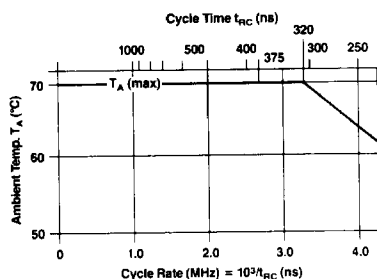
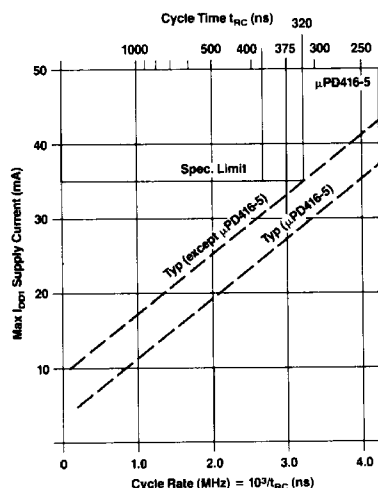

Figure 1. Maximum Ambient Temperature versus Cycle Rate for Extended Frequency Operation
Figure 2. Maximum I_{DD1} versus Cycle Rate for Device Operation at Extended Frequencies
- ① T_A is specified here for operation at frequencies to $t_{RC} \geq t_{RC}(\text{min})$. Operation at higher cycle rates with reduced ambient temperatures and high power dissipation is permissible, provided AC operating parameters are met. See Figure 1 for derating curve.
- ② All voltages referenced to GND.
- ③ Output voltage will swing from GND to V_{CC} when activated with no current loading. For purposes of maintaining data in standby mode, V_{CC} may be reduced to GND without affecting refresh operations or data retention. However, the $V_{CC}(\text{min})$ specification is not guaranteed in this mode.
- ④ I_{DD1} , I_{DD3} and I_{DD4} depend on cycle rate. See Figures 2, 3 and 4 for I_{DD} limits at other cycle rates.
- ⑤ I_{CC1} and I_{CC4} depend upon output loading. During readout of high-level data V_{CC} is connected through a low impedance (135Ω typ) to data-out. At all other times I_{CC} consists of leakage currents only.